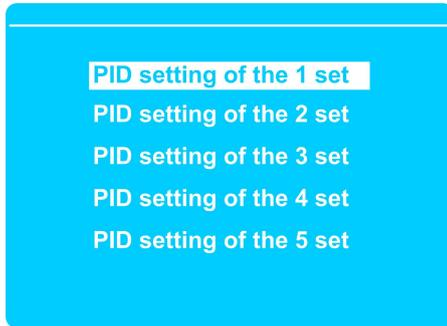

Figure 5.9-20
1. Under the interface shown in Figure 5.9-15, select 2. Grouping and press  to enter the submenu of PID setting, as shown in Figure 5.9-20. Under the interface shown in Figure 5.9-20, press  or  to select PID group for setting (take the first group as an example) and press  to enter setting interface for the first group of PID
- On the interface of Figure 5.9-21 are temperature ( $^{\circ}\text{C}$ ), proportion (P), integral (I), differential (D) and (S). The temperature value is that for tuning under the menu of PID Self-tuning and two groups have the same number (it is suggested for the user to only change the temperature setting and obtain the other four items by PID self-tuning). Press  for cyclical selection among four parameters, press  or  for cursor shift, press  or  for value change and press  after confirmation. Thus, the temperature controller will automatically save data and enter modification of the next item. If the modification is completed or given up, press  for return to the interface shown in Figure 5.9-20.
- Under the interface shown in Figure 5.9-20, you can continue to set next group of parameters by the method mentioned above.